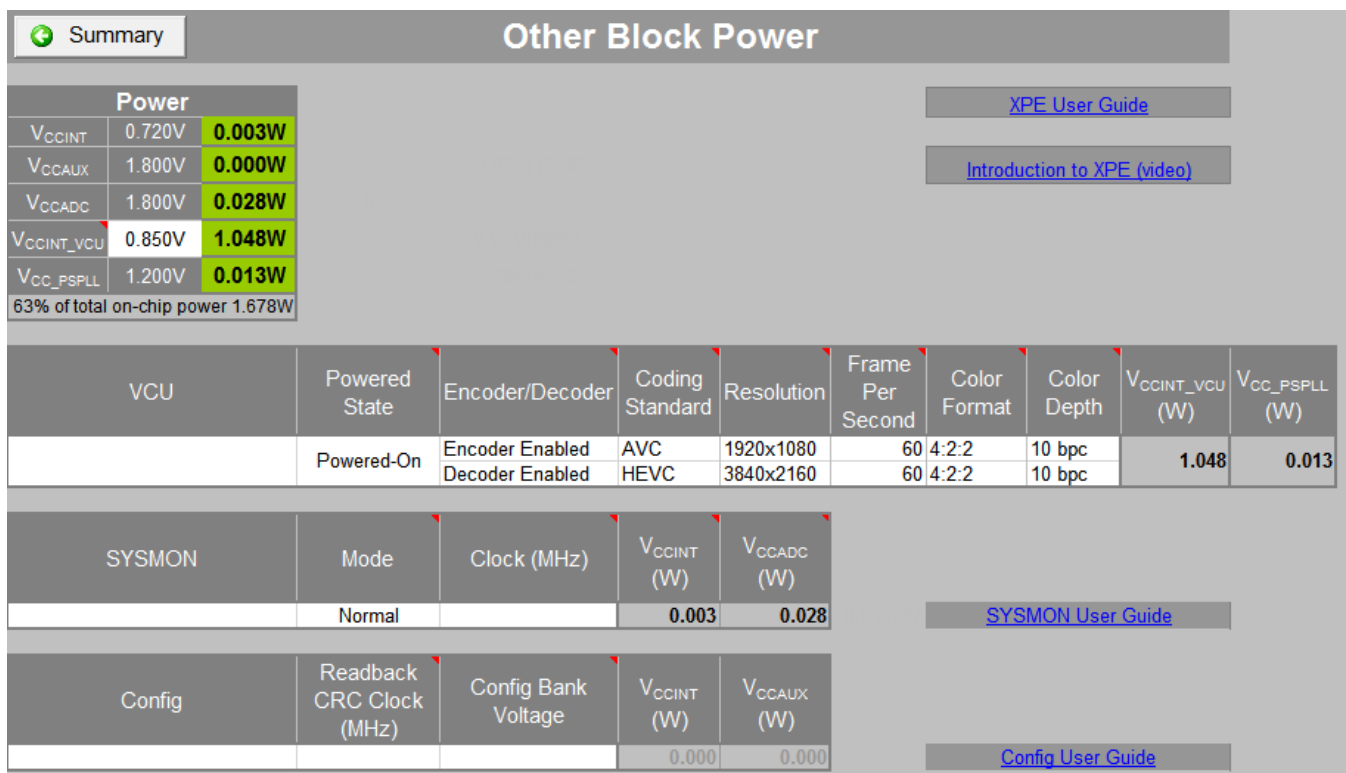

Figure 3-38: Other Sheet Displaying the VCU Power Estimator
**Other Sheet** in XPE populates the VCU parameters to estimate the power consumption for the VCU block. This VCU estimator will be available when you select any Zynq UltraScale+ EV device in Summary sheet. Figure 3-38 displays the VCU power estimator.